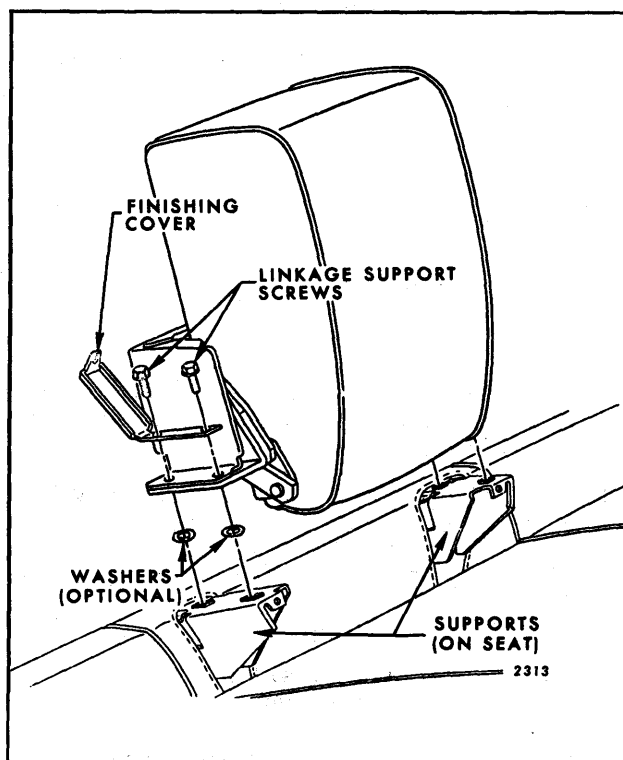

Fig. 15-27—Front Seat Center Arm Rest Support (Notch Down Seat Back)
3. Working at rear of seat, push one seat to full forward position. Carefully pull up front of screw finishing cover sufficiently to expose arm rest support attaching screws; then, remove screws (Fig. 15-27). Repeat this operation on opposite side of arm rest; then, carefully remove arm rest assembly, including trim panel finishing cover, from seat.
NOTE: If washers are present between arm rest support and supports on seat (Fig. 15-27), note location and number of washers used to
4. To install, reverse removal procedure. Prior to bending down screw finishing covers check alignment and operation of arm rest. Where necessary to align arm rest with seat back(s) install washer(s), as required, between arm rest support and supports on seat (See Fig. 15-27).
3. To install, reverse removal procedure. Prior to bending down support screw finishing covers check alignment and operation of arm rest. Where necessary to align arm rest with seat back(s), install washer(s), as required, between arm rest support and supports on seat (See Fig. 15-27).